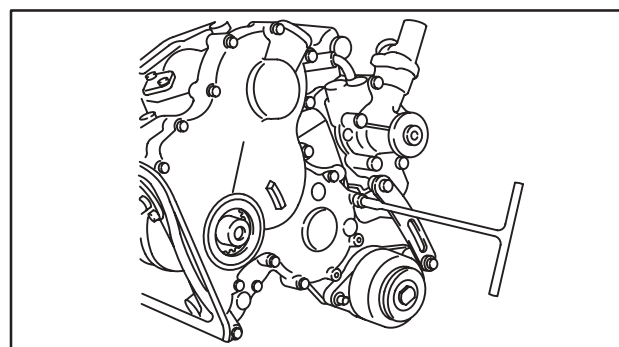

Fig. 4 – Removing Timing Gear Cover
5. Remove timing gear cover, Fig. 4.